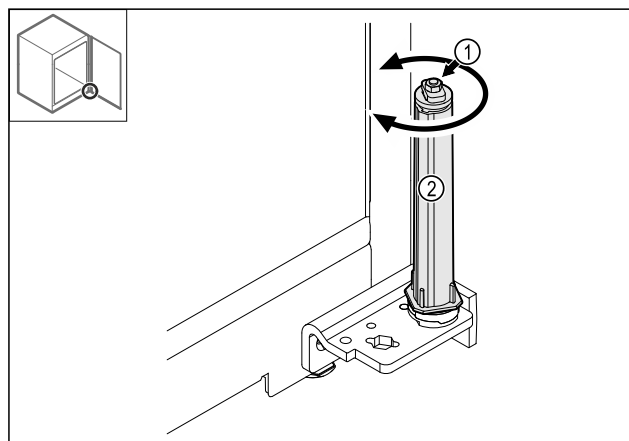

Fig. 44
- Do not dismantle the screw connection Fig. 44 (1) on the locking system.
- Turn the locking system Fig. 44 (2) until it clicks.